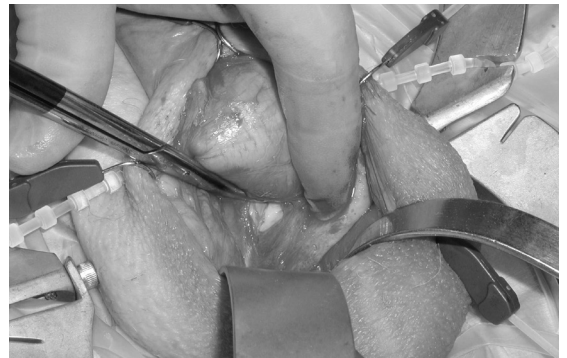

Figure 4-18.
7. By sharply dissecting webs of Buck's fascia binding the diverging corpora cavernosum to the corpora spongiosum, mobilization of the urethra can readily be achieved. (**Figure 4-18**)